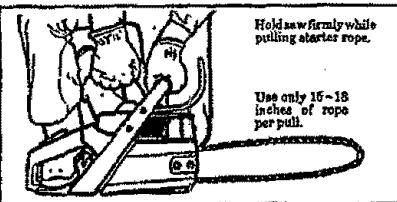

Figure 15
- 3.) Pull the starter rope quickly with your right hand until the engine starts. Figure 15.
- 2.) Pull the starter rope quickly with your right hand until the engine starts. Figure 15.